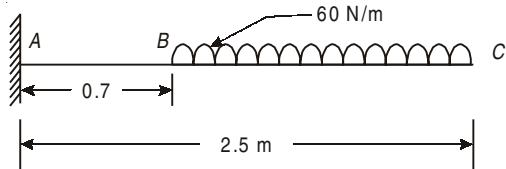

Fig. 10
53. Draw S.F. and B.M. Diagrams for the cantilever and simple supported beam shown in Fig. 10 and 11.